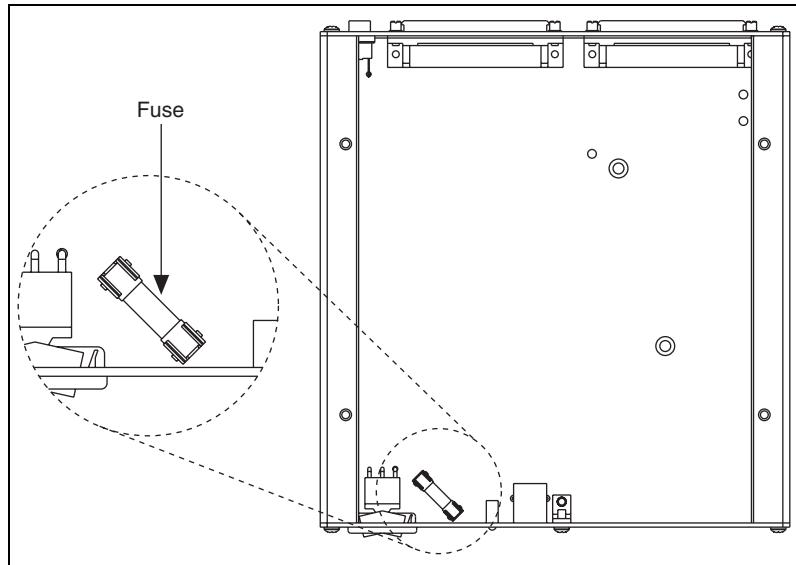

Figure A-23. USB-6259 Mass Termination Fuse Location
2. Replace the fuse while referring to Figure A-23 for the fuse location.